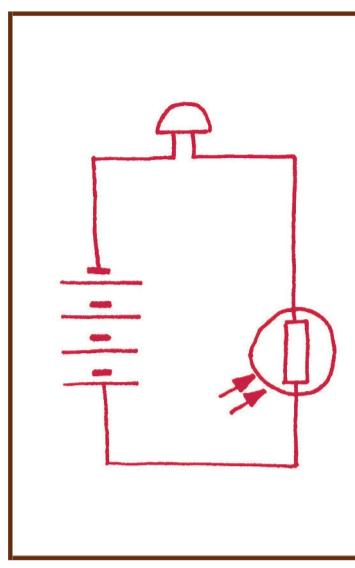

Figure 4: A circuit where the current is regulated by a light-dependent resistor
1. Work individually to draw a circuit diagram of Figure 4.